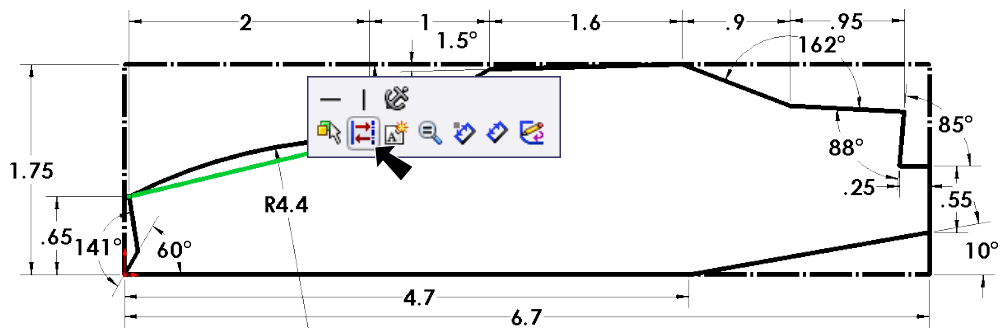

Fig. 13
Step 6. Click **line under arc** and click **Construction Geometry** on the Content menu, Fig. 13 and Fig. 14.